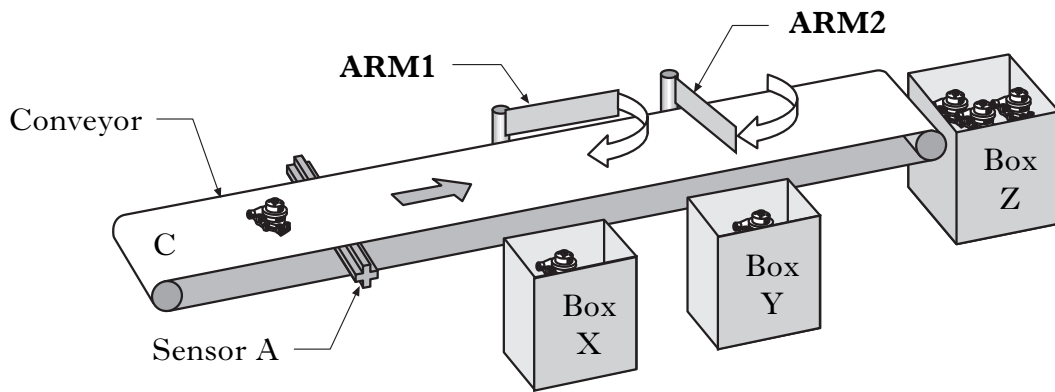

Figure Q6
6. Figure Q6 illustrates an automated component sorting system. The system shows ARM2 activated.